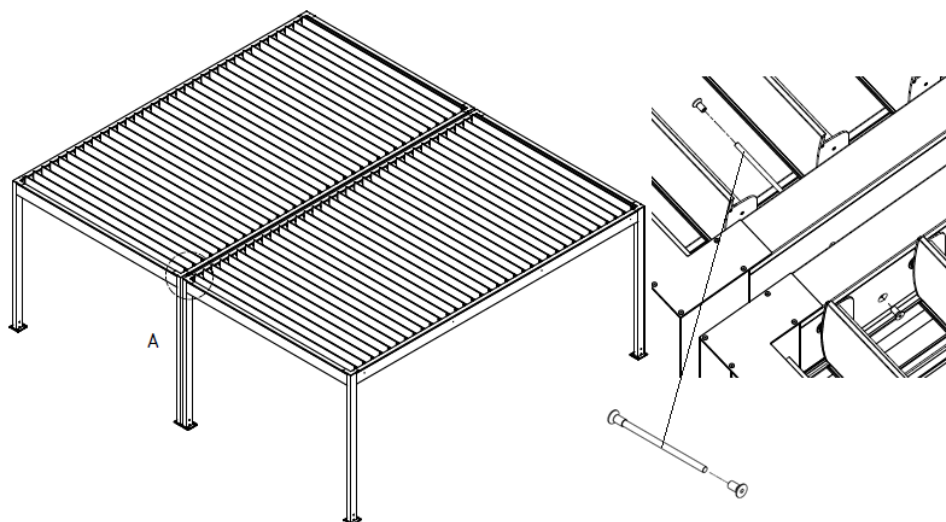

Figure 40
3. Screw an M8 conical nut with an Allen socket onto one end of the M8 pin until resistance is felt (fig. 40). Put the pin through the mounting hole on the side of the beams. Screw on the second conical nut M8 with Allen socket (fig. 40). The tightening torque is 17 Nm.